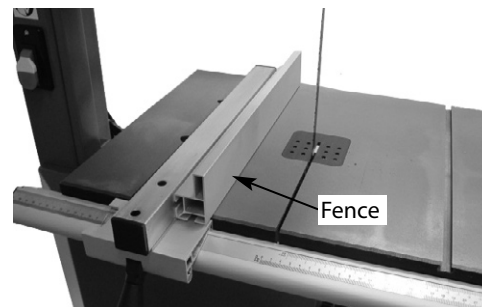

Figure 4 - Attach rip fence.
- Lay the rip fence onto the guide rail. Adjust the rip fence parallel to the saw blade. Tighten rip fence handle by pressing downward (See Figure 4).